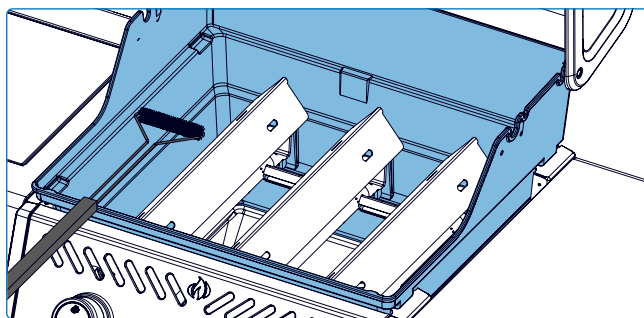

Fig. 21
2. Use a brass wire brush to clean loose debris from the sides and underside of the lid (**Fig 21**).